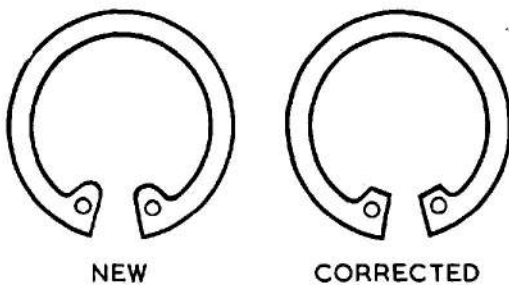

Fig. 3. Circlip correction
29. When the ballrace is fitted in the commutator end frame (using NT.2474), half fill with grease and pack with shims to give a maximum end float of 0.003 in. If a new circlip is required to lock the shims, grease retainer and ballrace in position, the holes must be filed as shown in fig. 3.